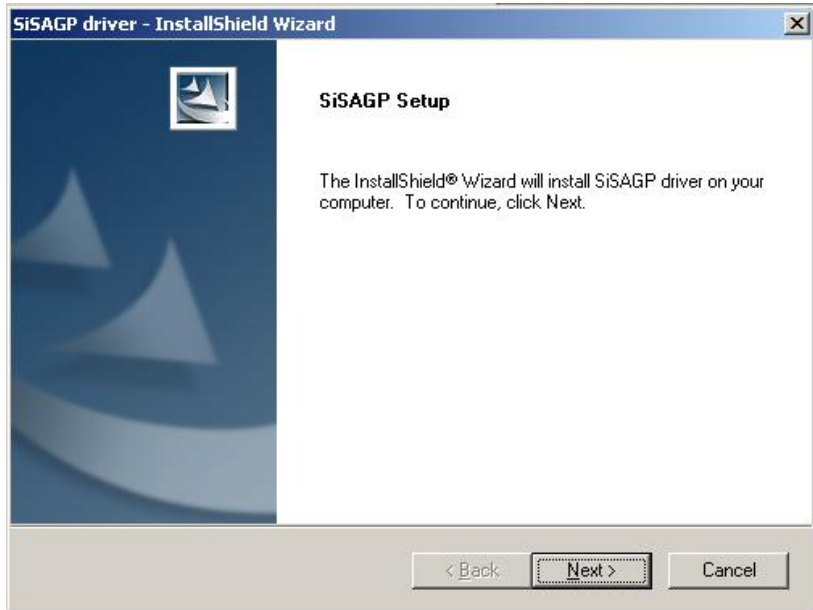

Figure 6-14: Install Shield Screen
Step 5: The **InstallShield** window appears next (**Figure 6-14**). Click **NEXT** to continue the installation.